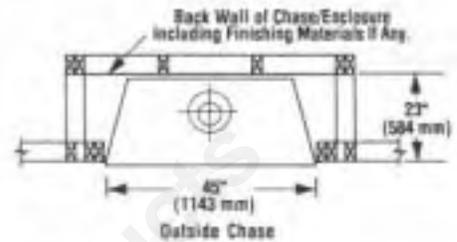

Figure 5
**Step 1.** Frame appliance enclosure as illustrated in Figures 5 through 8 on page 4.